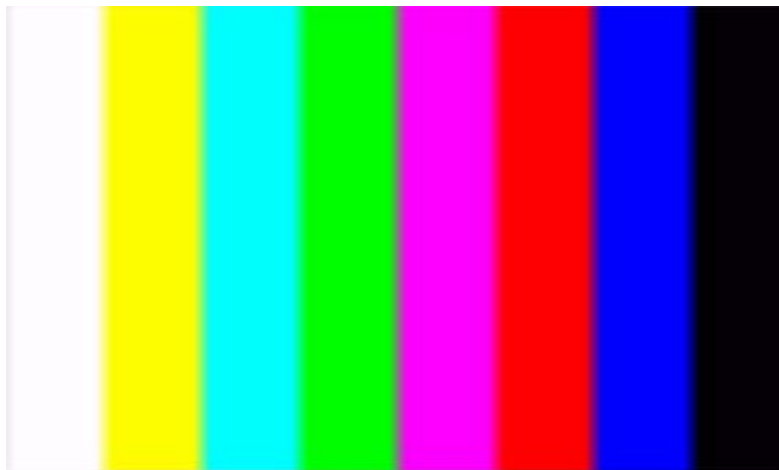

figure 3: lacking chrominance band width, you can see this easily on the change-over green/magenta
- width of the chrominance signal processing. (fig. 3)